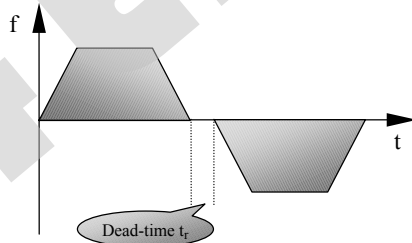

Fig 5-1 Forward/reverse Switchover Time
- This parameter refers to the transition time required during output of 0Hz when inverter change from forward running to reverse running(as shown in Fig 5-1). To set this function may ease the current strike in the course of direction switchover.